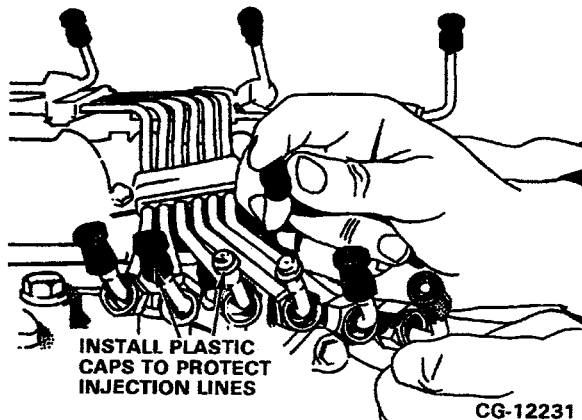

Figure 11.56. Cap Injection Lines
**CAP ALL FUEL INJECTION LINES, DISCHARGE FITTING AT THE PUMP AND NOZZLE INLETS WITH PLASTIC CAPS. DO NOT USE TAPE. TAPE COLLECTS DIRT AND LEAVES A GUMMY RESIDUE ON MATING SURFACES. REFER TO FIGURES 11.56. THROUGH 11.58.**